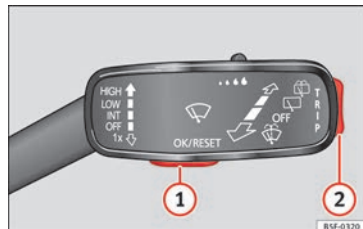
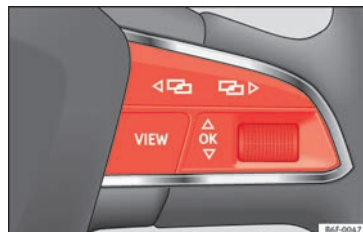

Fig. 47 Windscreen wiper lever: control buttons.
Fig. 48 Right side of multifunction steering wheel: control buttons.
The driver information system is controlled with the multifunction steering wheel buttons » Fig. 48 or with the windscreen wiper lever » Fig. 47 (if the vehicle is not equipped with multifunction steering wheel).
- If a message or vehicle pictogram appears, press button **» Fig. 47 ①** on the windscreen wiper lever or button **OK** on the multifunction steering wheel **» Fig. 48**.
- *If managed from the windscreen wiper lever:* to display the main screen or to return to the main menu from another menu, hold down the rocker button **» Fig. 47 ②**.
- *If managed from the multifunction steering wheel:* the main menu list is not displayed. To go from point to point in the main menu, press button **< >** or **> <** several times **» Fig. 48**.
- Press the rocker switch **» Fig. 47 ②** on the windscreen wiper lever up or down or turn the thumbwheel of the multifunction steering wheel **» Fig. 48** until the desired option appears marked on the menu.
- To consult the submenu option, press button **» Fig. 47 ①** on the windscreen wiper lever or button **OK** on the multifunction steering wheel **» Fig. 48**.
- Mark or confirm the selection with button **» Fig. 47 ①** on the windscreen wiper lever or button **OK** on the multifunction steering wheel **» Fig. 48**.
- *In vehicles without multifunction steering wheel:* Press the rocker switch **TRIP** on the windscreen wiper lever **» Fig. 47**.
- *Vehicles with a multifunction steering wheel:* turn the thumbwheel **» Fig. 48**.